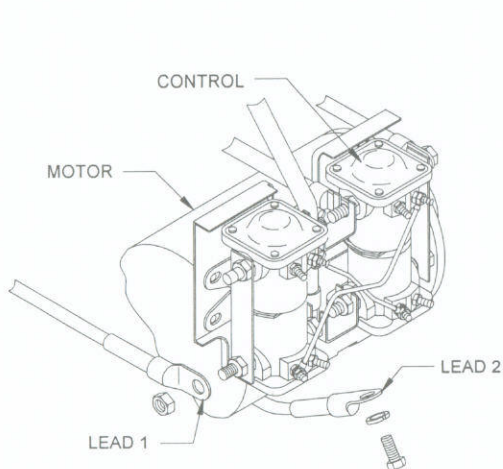

Figure 2.9
3. Remove nut and lead 1 from control (*Figure 2.9*).
14. Connect lead 2 to motor and secure with lockwasher and cap screw (*Figure 2.9*).